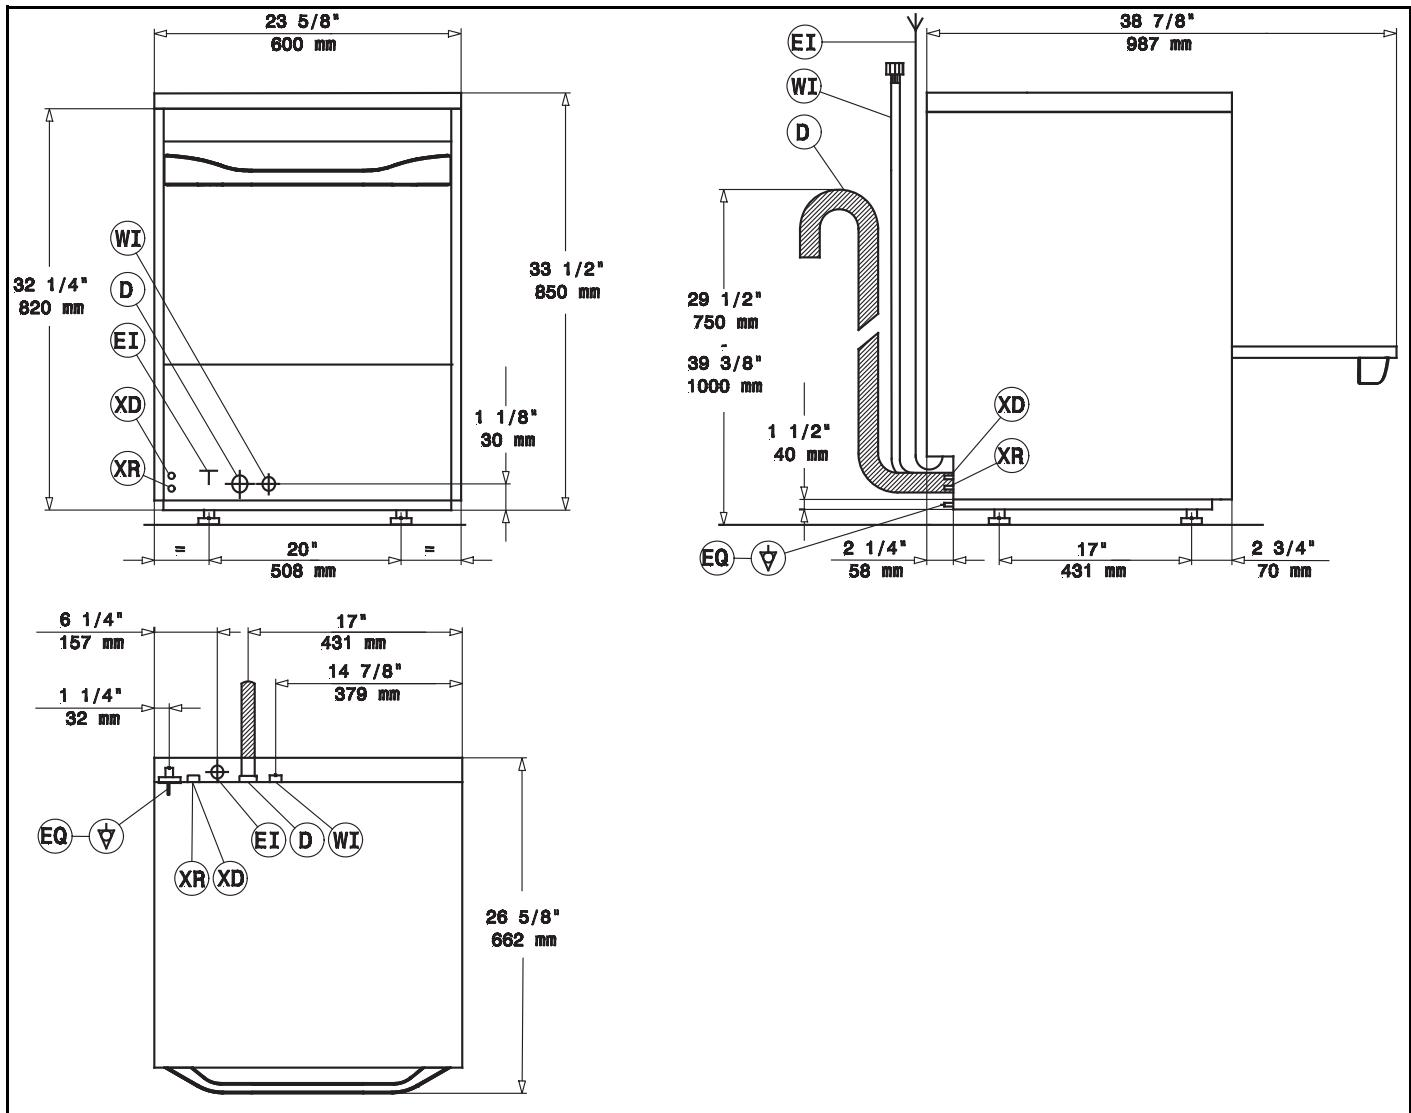
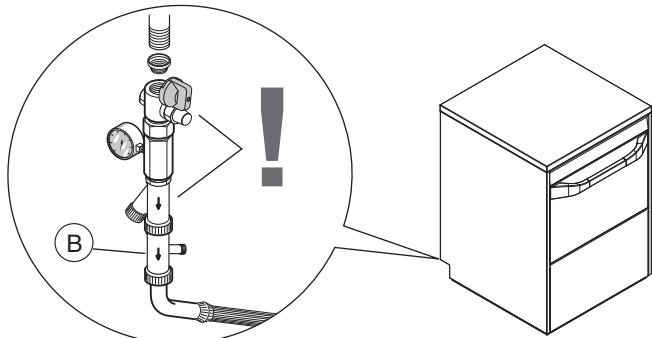

Figure 4
Figure 6
Legend Figure 4
- Connect the appliance water supply pipe "A" (Figure 4) (keeping with local plumbing codes) to the incoming water supply. Install a shutoff valve, Y-Strainer, and a pressure gauge between the appliance and the incoming water supply of the unit (Figure 6).
- In models with incorporated water softener, connect the double non-return valve "B" (Figure 6) supplied and the machine supply pipe.
- The appliance requires a ground connection to the unit ground screw located at the rear of the unit marked "Q" (Figure 4) in the manual and marked with the symbol "▽" on the unit. The ground wire must have a cross section of AWG 8/8.35 mm². Do not use the wiring conduit or other piping for ground connections. If necessary, have the electrician supply the ground wire.